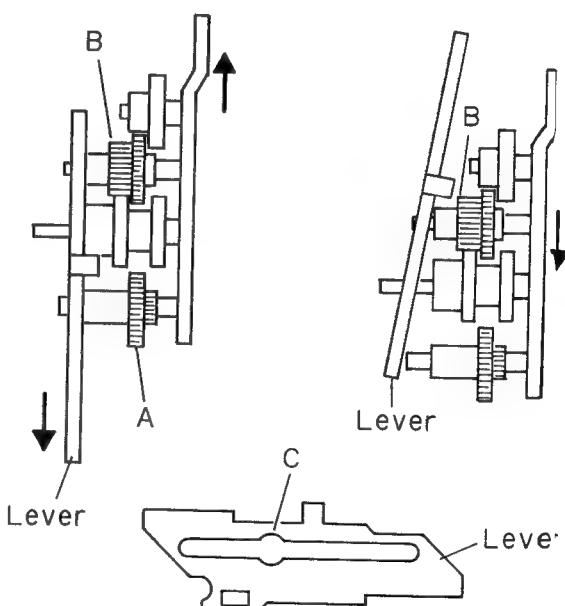

Fig.18
13. Shift lever as shown in Fig.18.
15. Shift the gear as shown in Fig.18.